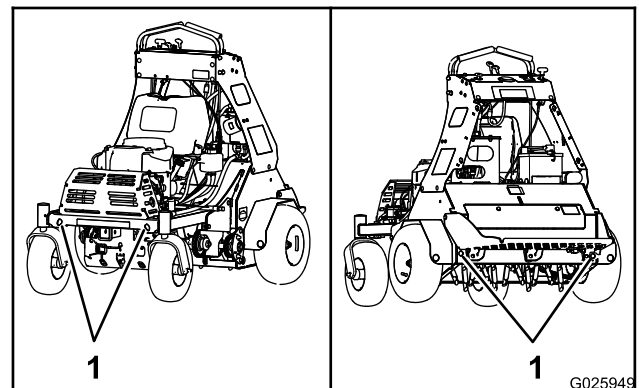

Figure 21
7. Use the tie-down points on the machine to securely bind the machine to the trailer or truck with straps, chains, cable, or ropes (Figure 21).